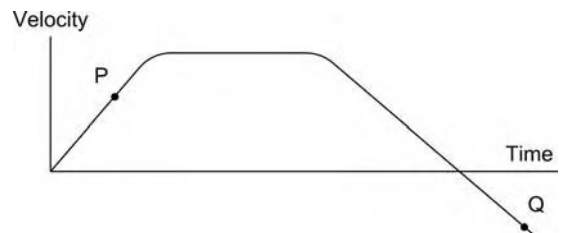

Figure 4.143
38. With reference to the graph given in Figure 4.143, [A, B1, B2]
39. With reference to the graph given in Figure 4.143, at the point Q the vehicle must be: [A, B1, B2]